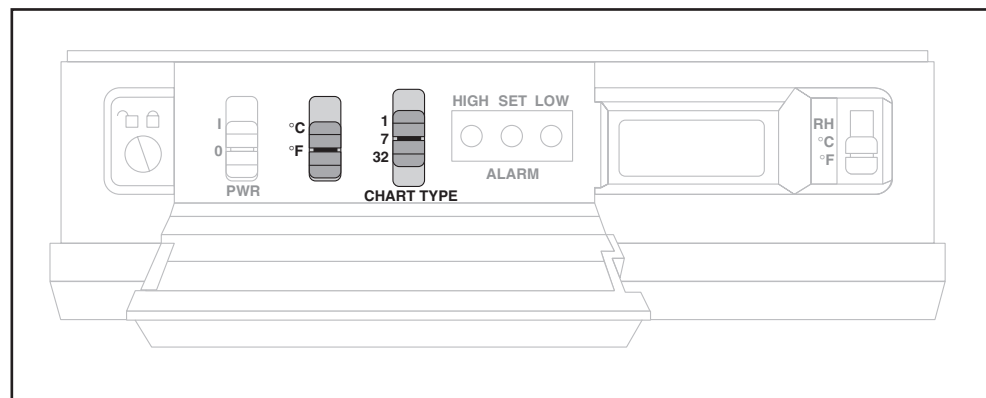

Figure 2-7. Chart Switches
The recorder accepts six different types of chart paper. Charts are available for 1, 7 and 32 day recording times in both Fahrenheit or Celsius versions. Although chart paper replacing is very simple, you must take care to set the appropriate front panel switches for the paper being used. Set the chart type and °C/°F switches (refer to Figure 2-7) to the following positions for these six (6) modes of operation.